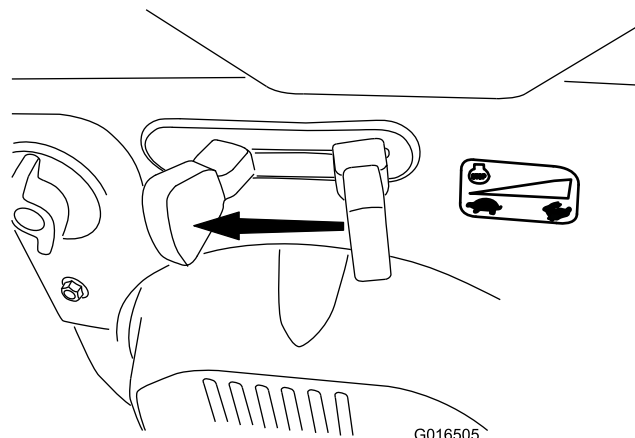

Figure 30
1. Move the throttle to the SLOW position, and then to the STOP position (Figure 30) to shut off the engine. You can also shut off the engine by pulling the ignition key outward to the middle position.